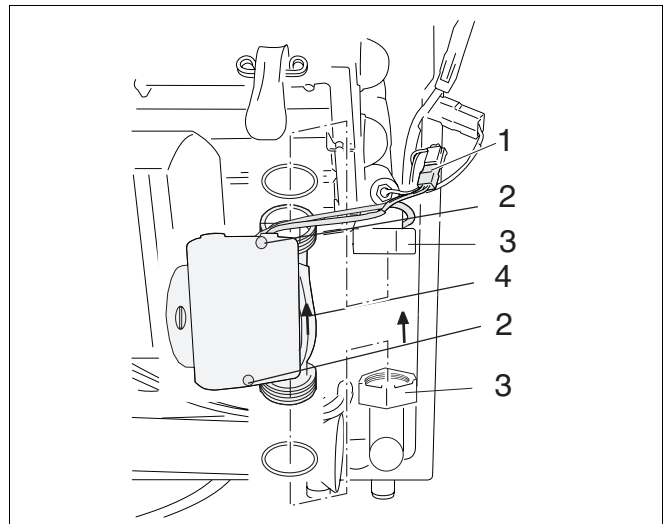

fig. 60 Replacing the modulating pump
- Disconnect the system from the power supply (fig. 60, item 1).
- Loosen screws on modulating pump terminal box and open terminal box (fig. 60, item 2).
- Loosen modulating pump screw-in adapters and remove pump (fig. 60, item 3).
- Fit new pump and connect to system (fig. 60, item 4). Ensure when doing so that the heat-exchanger spacer washer is inserted correctly.